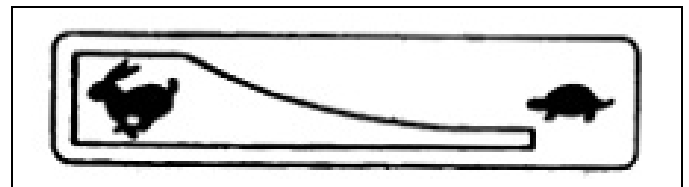

Figure 5-6. Throttle Position
3. Move throttle control lever (C) to “High” (Rabbit) position (Figure 5-6).
1. Move throttle control lever on engine to “Low” (Turtle) position (Figure 5-6) (if applicable).
2. Turn the engine ON/OFF switch to the OFF (0) position.
3. Turn the fuel valve to the OFF (0) position (if applicable).